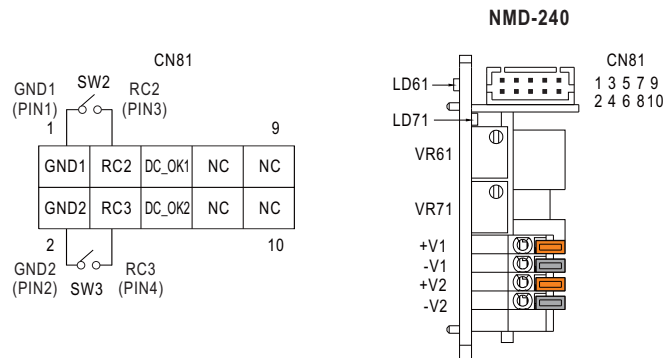

Figure 5-6
- ◎ Figure 5-6 shows RC2 (CN81 PIN3) to GND1 (CN81 PIN1) and RC3 (CN81 PIN4) to GND2 (CN81 PIN2) connection diagram.